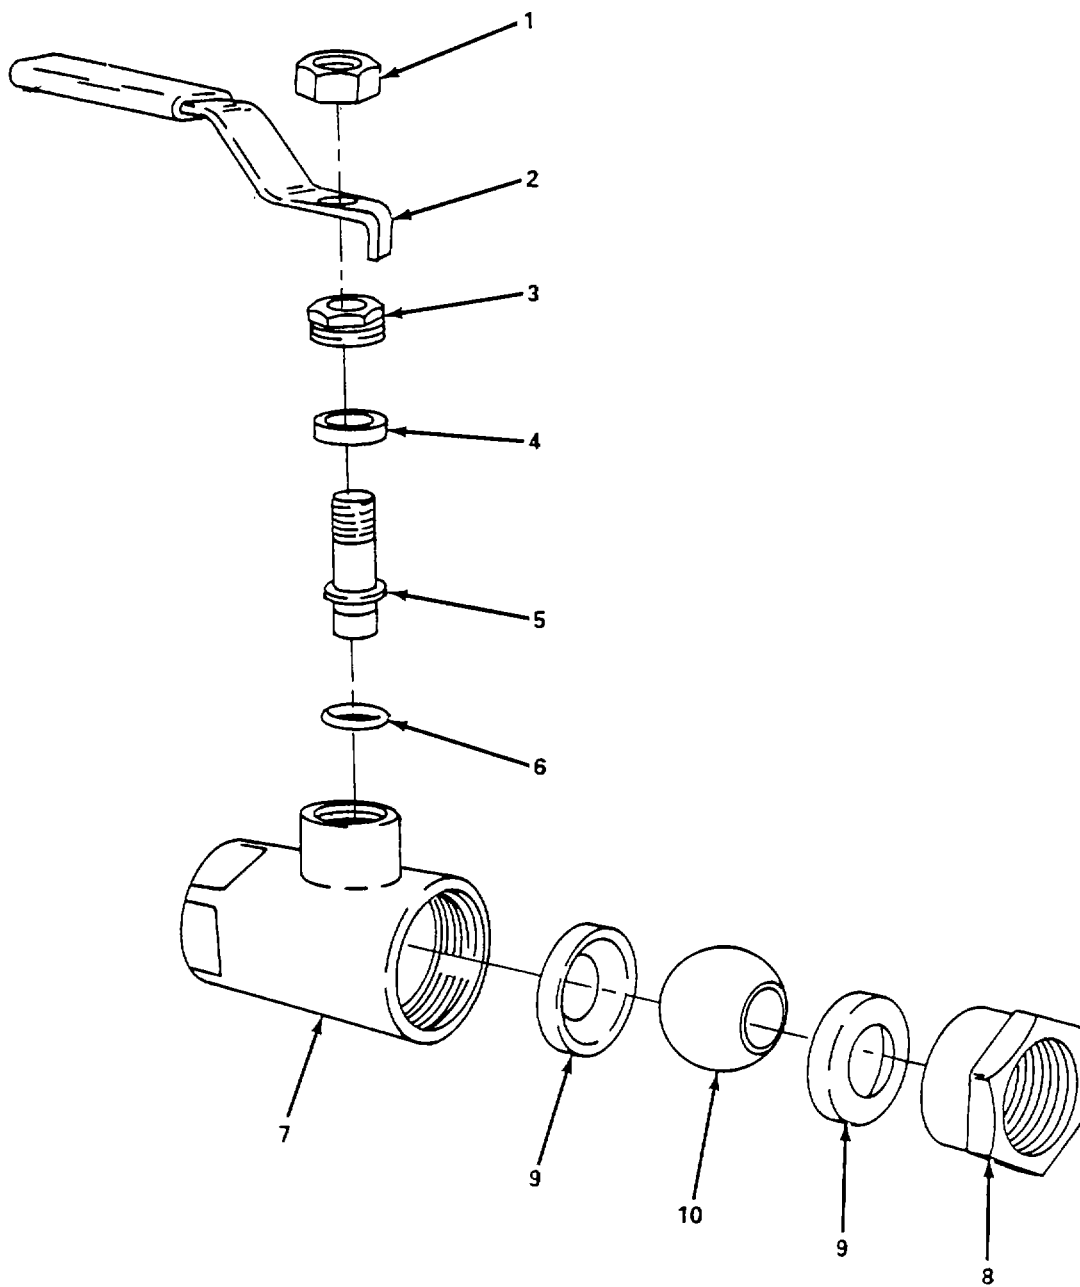

Figure 5-7. Ball Valve 3/4 Inch, Repair.
b. Repair. (figure 5-7)
- (1) Remove ball valve, see para. a. above.
- (2) Remove lever nut (1) and remove handle (2).
- (3) Remove stem gland screw (3), packing (4), stem (5) and thrust seal washer (6) from body (7).
- (4) Remove retainer (8), two teflon seats (9) and ball (10) from body (7).
- (5) Clean all components using nonionic detergent cleaner and rinse with clean distilled water.
- (6) Inspect all components, replace all components that are bent, cracked, worn or otherwise damaged.
- (7) Install two teflon seats (9), ball (10) and retainer (8) in body (7).
- (8) Install thrust seal washer (6), stem (5), packing (4) and stem gland screw (3) into body (7).
- (9) Install handle (2) and secure with lever nut (1).